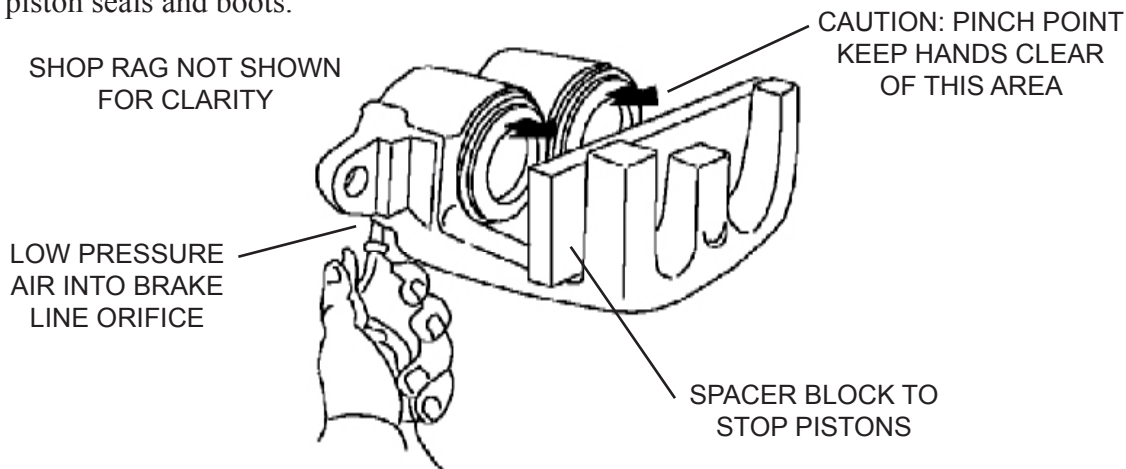

Figure 19. Removing Pistons
2. Place a spacer block approximately 1 3/4 to 2 inches thick between the caliper outer shoe legs and piston faces. Cover pistons with a shop rag to contain brake fluid spray. Refer to *Figure 19*. Make sure one caliper fluid port is sealed with a bleed screw and the other port is open.
3. Use an air blow gun, as shown in *Figure 19*, to carefully apply **low** air pressure not to exceed 50 psi into the open caliper port to slowly push pistons out of caliper bores. Pistons will push out against the spacer block.